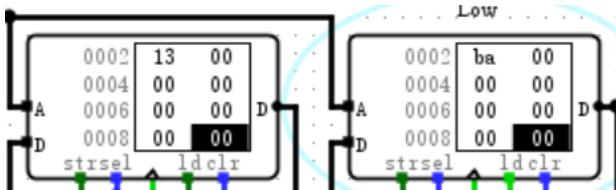

Fig. 6. Final RAM State
- a) *Accumulator Test:* Please refer to Fig.6